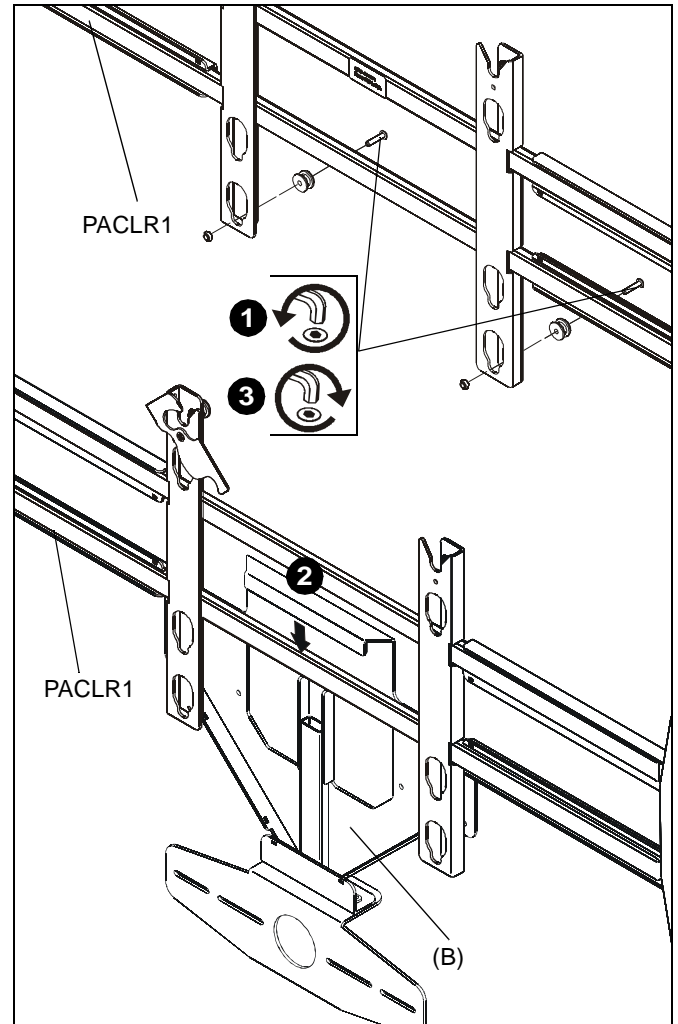

Figure 2
1. Remove two lower mounting buttons from uprights on PACLR1. (See Figure 2)
2. Hang top mounting flange of PACCC1 over the top of the lower speaker rail on the PACLR1. (See Figure 2)
3. Install removed two lower mounting buttons to uprights and center plate (B) using screws and lock nuts removed in Step 1. (See Figure 2)